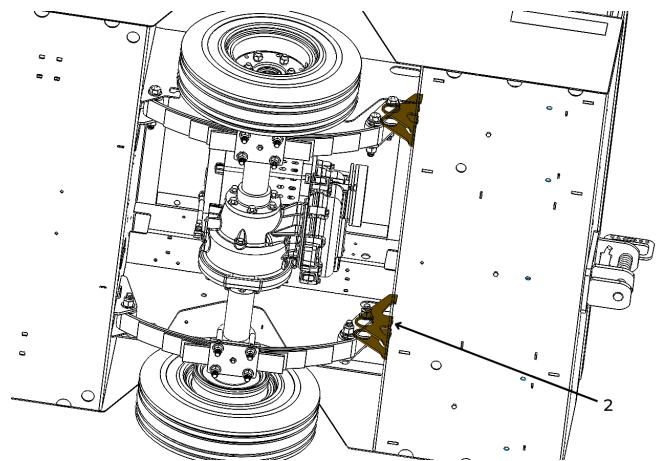

Figure 42. Rear Suspension Mounting Tabs.
- Rear suspension mounting tabs (2) (see Figure 42).